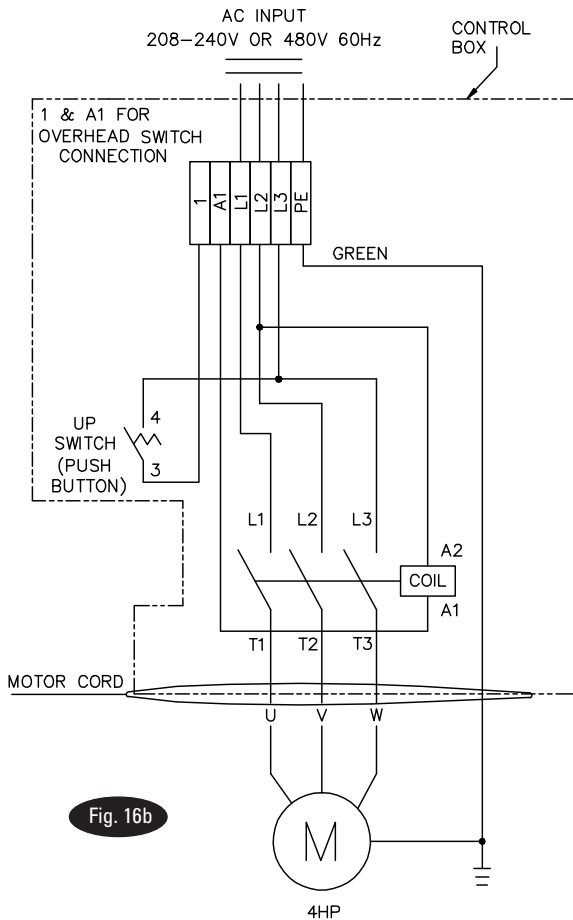

Fig. 16b
IMPORTANT: Use separate circuit for each power unit. Protect each circuit with time delay fuse or circuit breaker. For single phase 208-230V, use 20 amp fuse. For single phase 4HP motor use 30 amp fuse. Three phase 208-240V, use 20 amp fuse. For three phase 400V and above, use 10 amp fuse. For wiring see Fig. 15, Fig. 16, and Fig.16b. All wiring must comply with NEC and all local electrical codes.
16. Overhead switch: Check overhead switch assembly to assure that switch bar is depressing switch plunger sufficiently to actuate the switch. The overhead switch is wired normally open, see Fig. 15, Fig. 16, and Fig. 16b. Lift will not operate until weight of switch bar is depressing switch plunger. Verify that Power Unit stops working when switch bar is raised, and restarts when the bar is released.